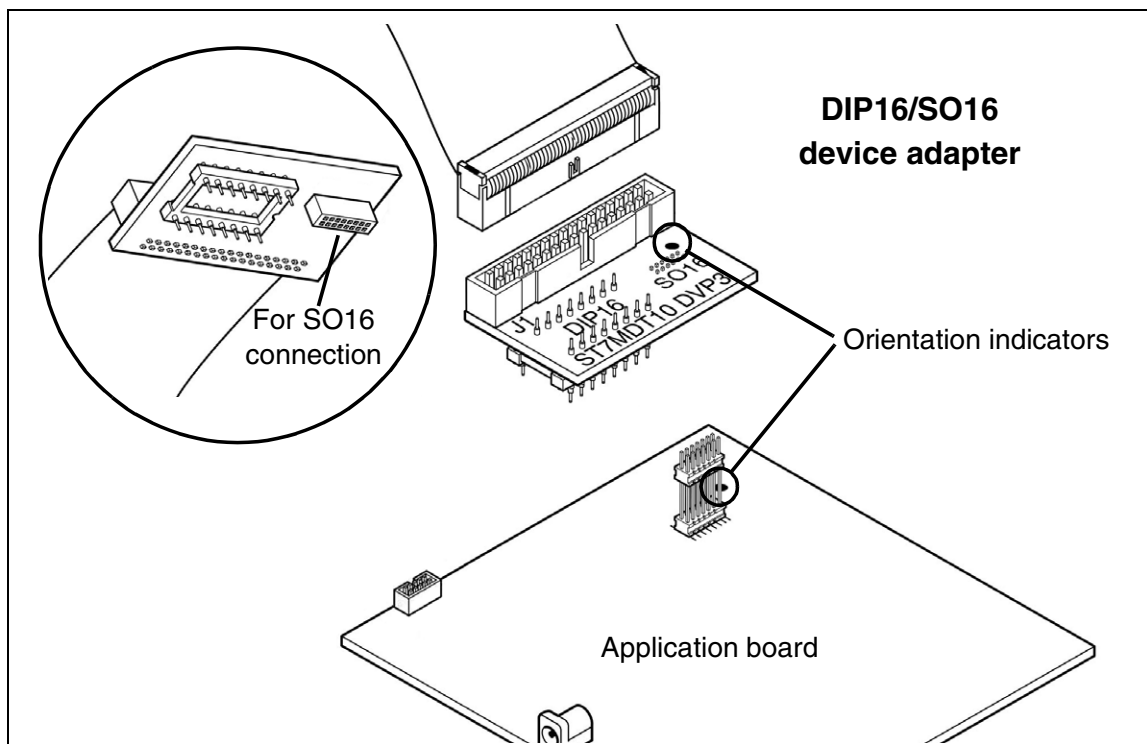

Figure 6: SO16 connection to application board
- 4 Plug the other end of the 34-pin flat cable into J1 on the DIP16/SO16 device adapter (ref.: DB587), as shown in Figure 6.
- 6 Insert the pins of the SO16 connector that is soldered on your application board, into the DIP16/SO16 device adapter, as shown in Figure 6. Use the orientation indicators on the device adapter and on your application board to ensure that pin 1 is aligned with pin 1 on the adapter.